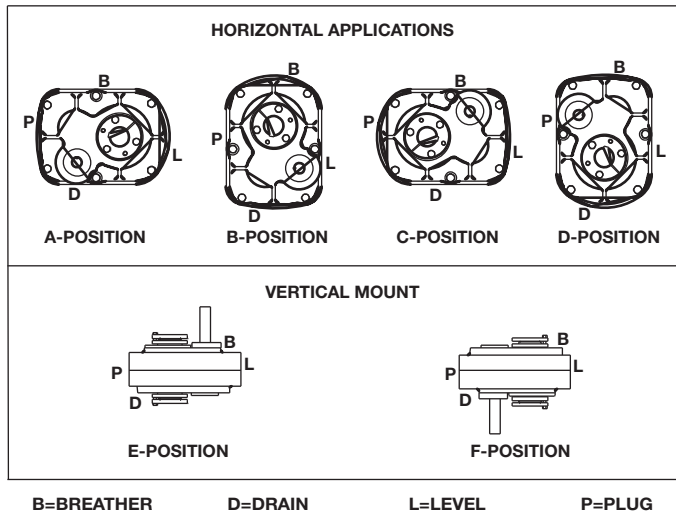

Figure 3 - Mounting Positions
1. Determine the running positions of the reducer (Figure 3). Note that the reducer is supplied with 7 plugs; 5 around the sides for horizontal installations and 1 on each face for vertical installations. These plugs must be arranged relative to the running positions as follows:
① Below 15 RPM output speed, oil level must be adjusted to reach the highest oil level plug (P).
② Refer to Figure 3 for mounting positions.
Note: If reducer position is to vary from those shown in Figure 3, either more or less oil may be required. Consult Dodge product support.